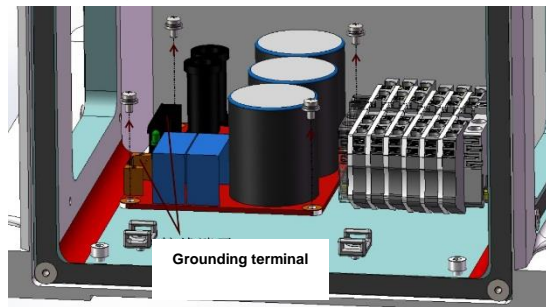

Figure 5-12 Remove the QBUS module
Step 3 Use 6 mm Allen wrench to remove the cross recessed screws from the QBUS module, as shown in Figure 5-12.